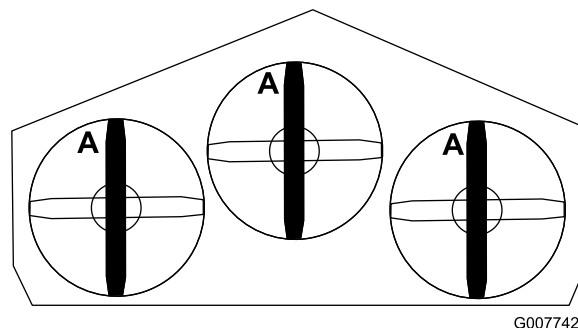

Figure 54
1. Rotate the blades until the ends face forward and backward (Figure 54).